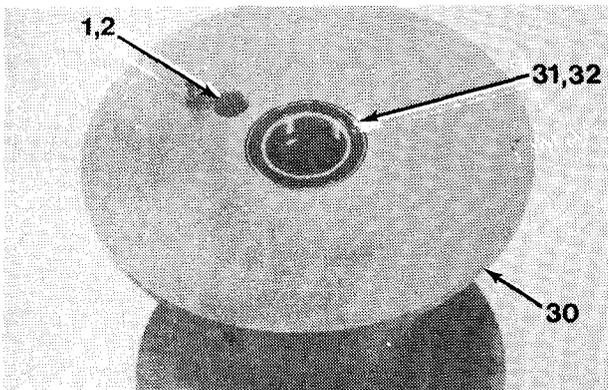

Figure 16-16
2. Install bearing (32) and seal (31) in drum (30, Figure 16-16). Install seal (31) with spring side of seal away from bearing, and press into drum, using a flat plate to avoid distortion.
3. Install O-ring (2) and drain plug (1) securely.